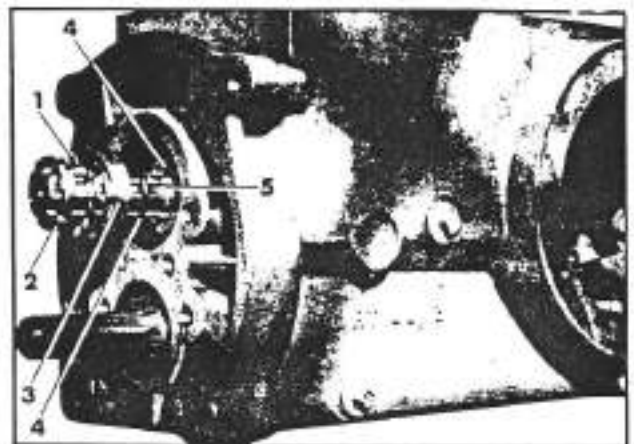

Fig. 3-45. Removal of the components and the bevel pinion shaft
- a. Bend back the opening tabs of the lock washer (1; fig. 3-45) and remove the nut (2; fig. 3-45), the spacer (3; fig. 3-45), and seals (4; fig. 3-45).
- b. Remove the shaft (5; fig. 3-45) using a wooden mallet.
- When installing the bevel pinion (5; fig. 3-45) after having tightened the lock nut (2; fig. 3-45), be sure to ascertain that the tapered bearings are well set by tapping both ends of the shaft with a wooden mallet or rawhide or plastic mallet. Afterwards bend the nearest tab of the lock washer (1; fig. 3-45), into one of the slots of the lock nut (2; fig. 3-45).